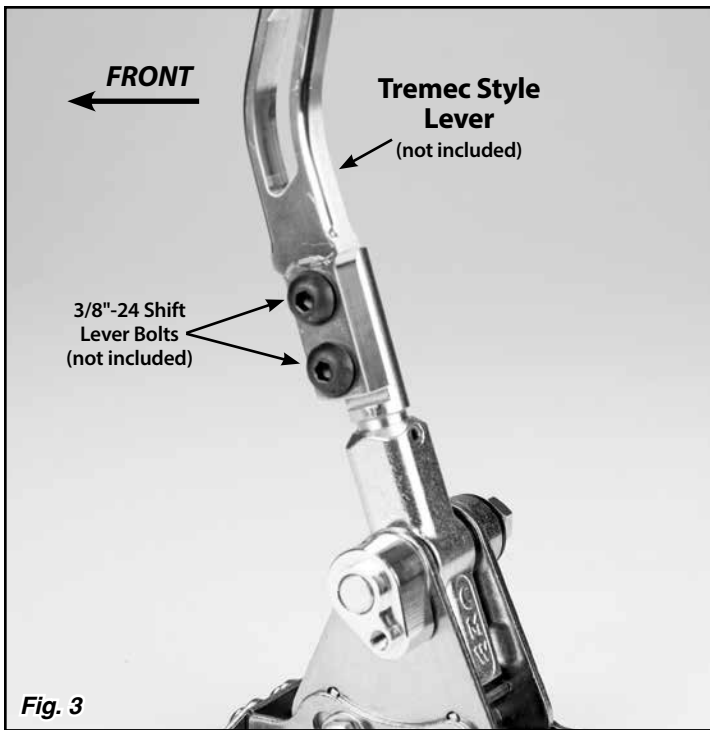

Fig. 3
Step 5: Tremec Style Lever - If your Shifter did not come with the Shifter Lever already installed, install the Shifter Lever using the 3/8"-24 bolts that came with the Shifter Lever. **Fig. 3**